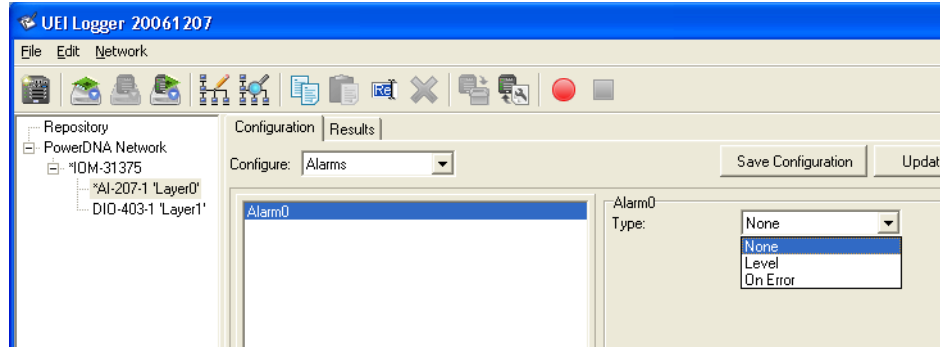

Figure 2-25. Alarm Configuration Options
STEP 1: Click on the alarm name in the left panel. A panel then appears at the right with available configuration options, as shown in **Figure 2-25**.